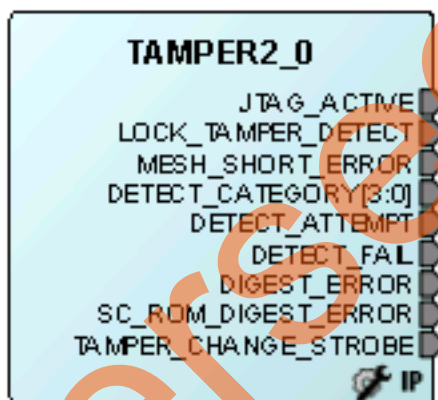

Figure 24 • Tamper Macro
- a. Drag-and-drop the **Tamper Macro** available in **Libero Catalog** to the **Dev_Restart_after_ISP_blk** SmartDesign canvas., as shown in Figure 24.